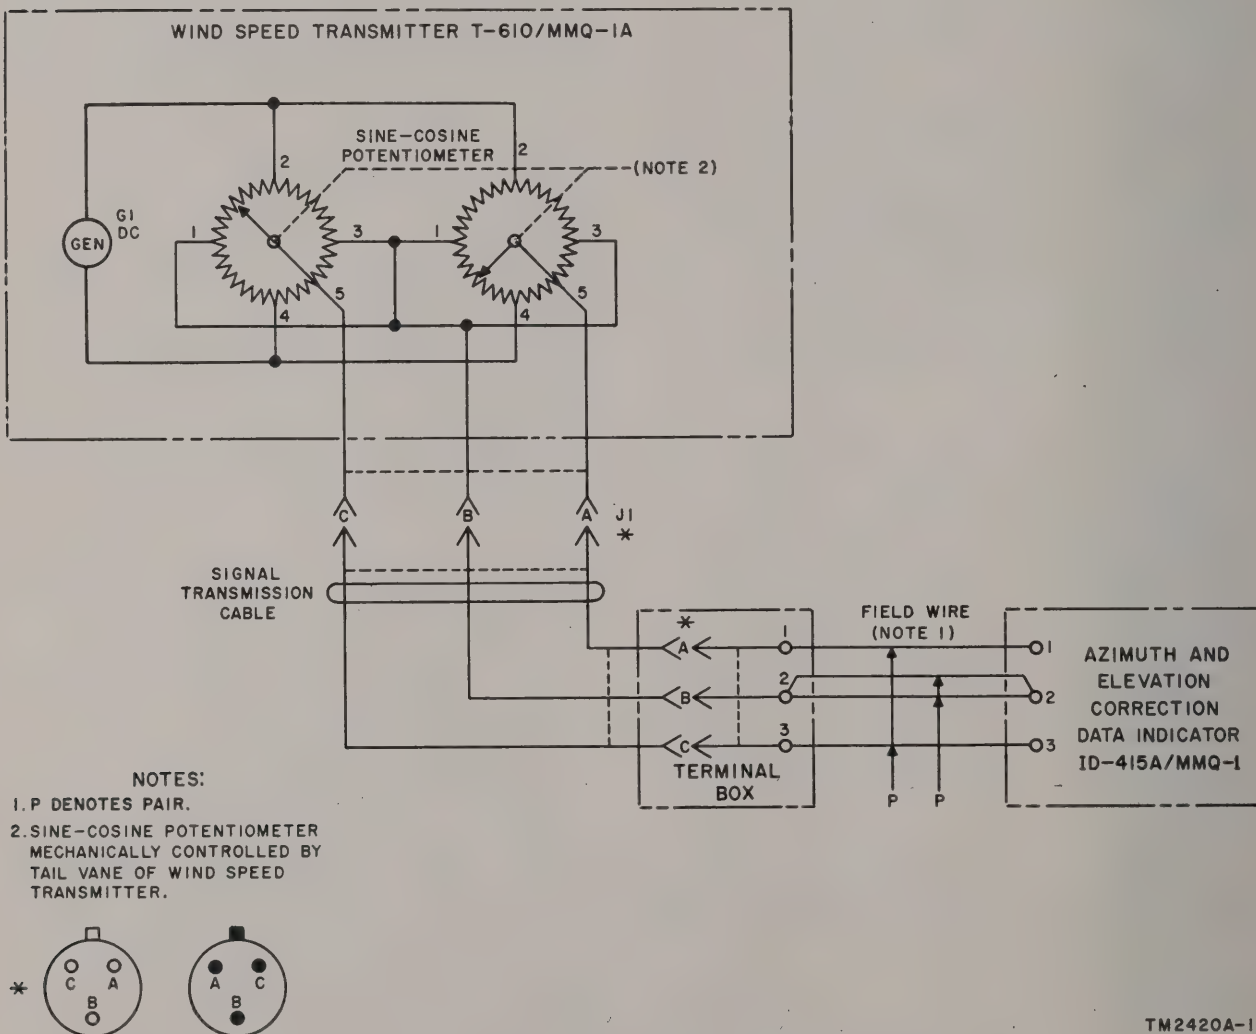

Figure 24. Transmission circuit, schematic diagram.
- (1) The generator is driven by the impeller. The output voltage of the generator is connected to the sine-cosine potentiometer and will vary according to the wind speed.
- (2) The tail vane, which turns with the direction of the wind, is mechanically connected to the sine-cosine potentiometer.
- (3) The sine-cosine potentiometer provides separate elevation and azimuth information for the indicator.
55. Wind Speed Transmitter (fig. 24)